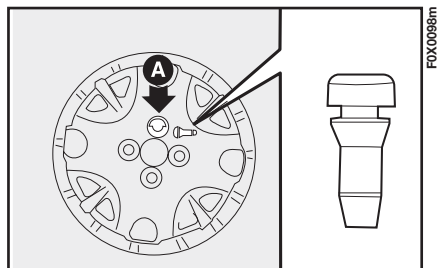

fig. 117
- 10) Fit the hub cap (where provided) so that the largest hole A-fig. 117 is aligned with the bolt which is already fixing the wheel.